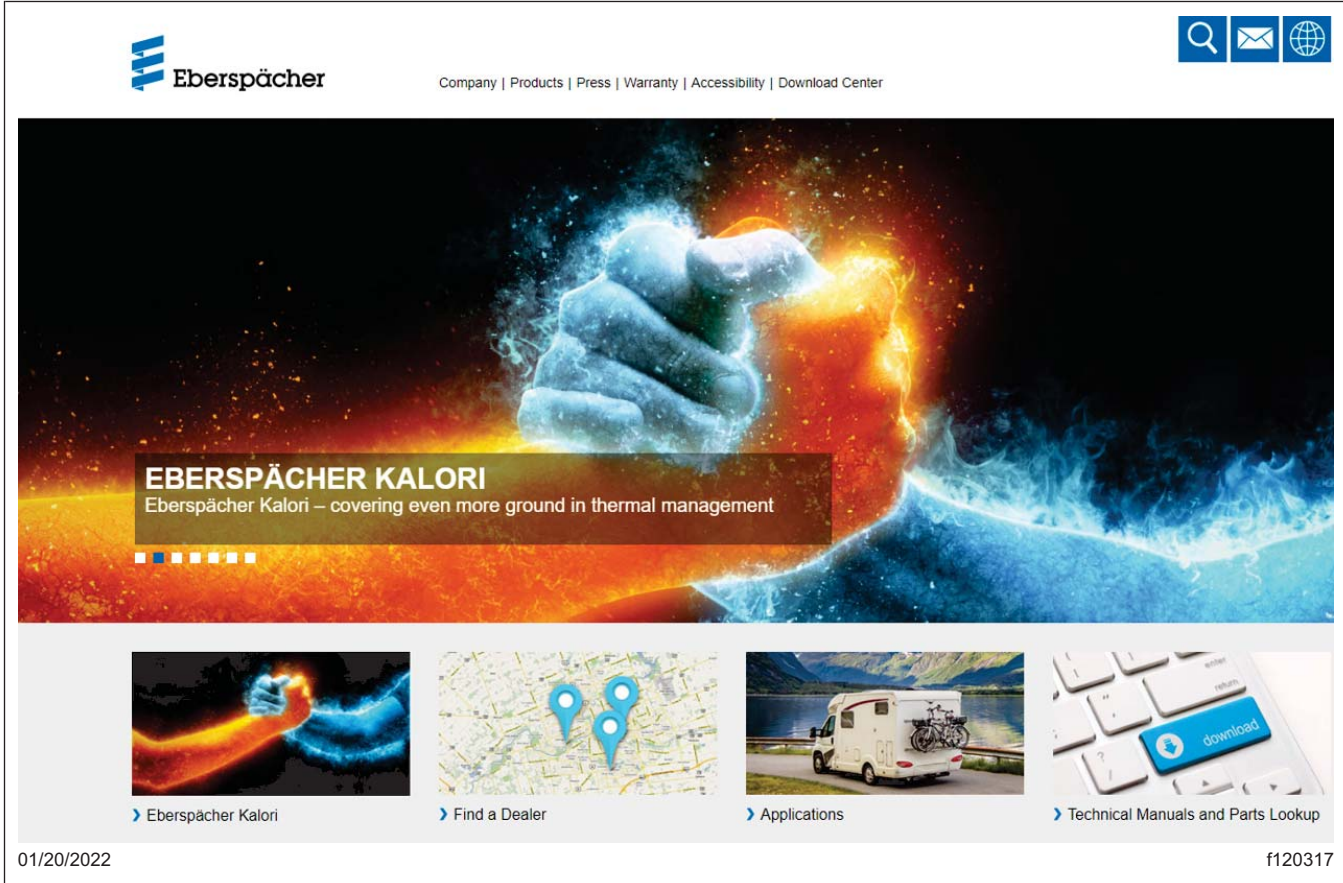

Fig. 1, Eberspaecher Home Page
1. Go to the Eberspächer web site at <https://www.eberspaecher-na.com/> shown in **Fig. 1**.